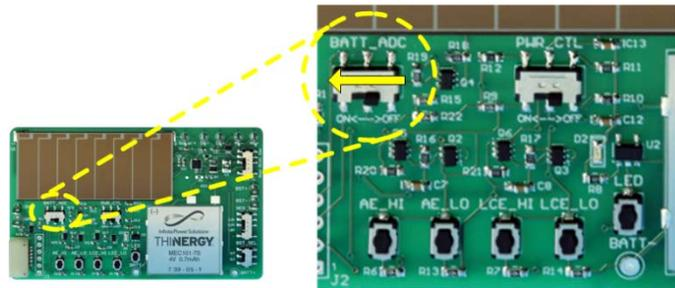

Figure 15: Turn BATT_ADC Switch to “On” to Enable Batt Mon_Ctl Control
- 1) Position the BATT_ADC switch to the “On” position as shown in Figure 15.